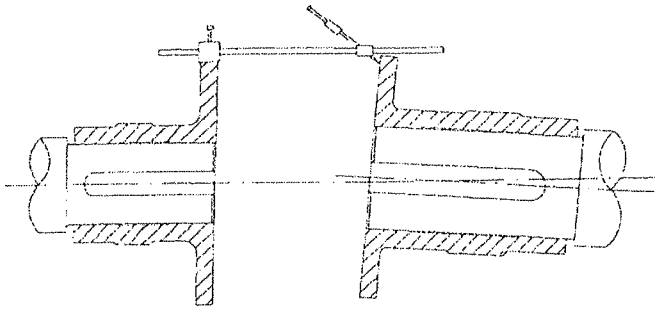
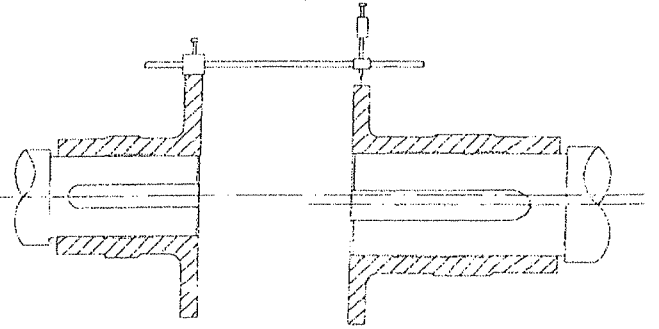

图 1 (fig.1)
图 2 (fig.2)
3、找正：用百分表检测两半联轴节法兰盘端面和外圆跳动，当法兰盘外圆小于250mm时跳动值应不大于0.05mm；当法兰盘外圆大于250mm时，跳动值应不大于0.08mm，测量方法参见图1、图2。
3. Alignment: Measure the end face and outside diameter runout of both half-couplings by use a dial gage. When the outer diameter of flange is less than 250 mm, the runout value should not be more than 0.05 mm. When the outside diameter of flange is more than 250 mm, the runout value should not more than 0.08 mm. For the measuring method, see Fig.1、Fig.2.